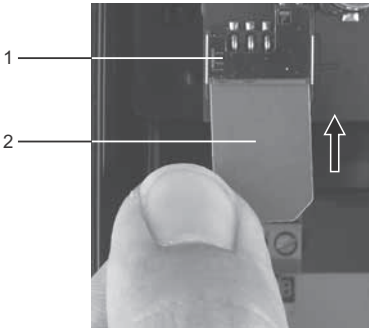

Fig. 20 Inserting the SIM card
3. Insert the SIM card into the CIM 260. See fig. 20.
The connectors on the SIM card must face inwards towards CIM 260. See fig. 20.